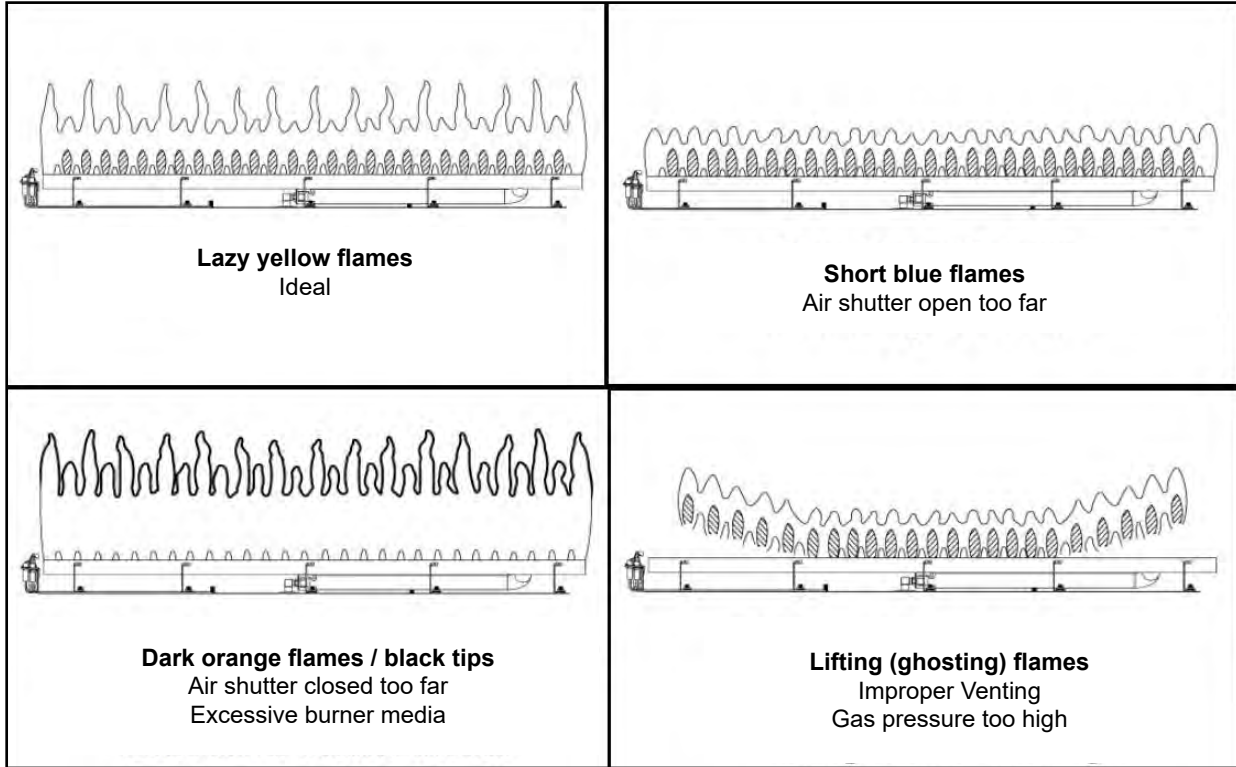
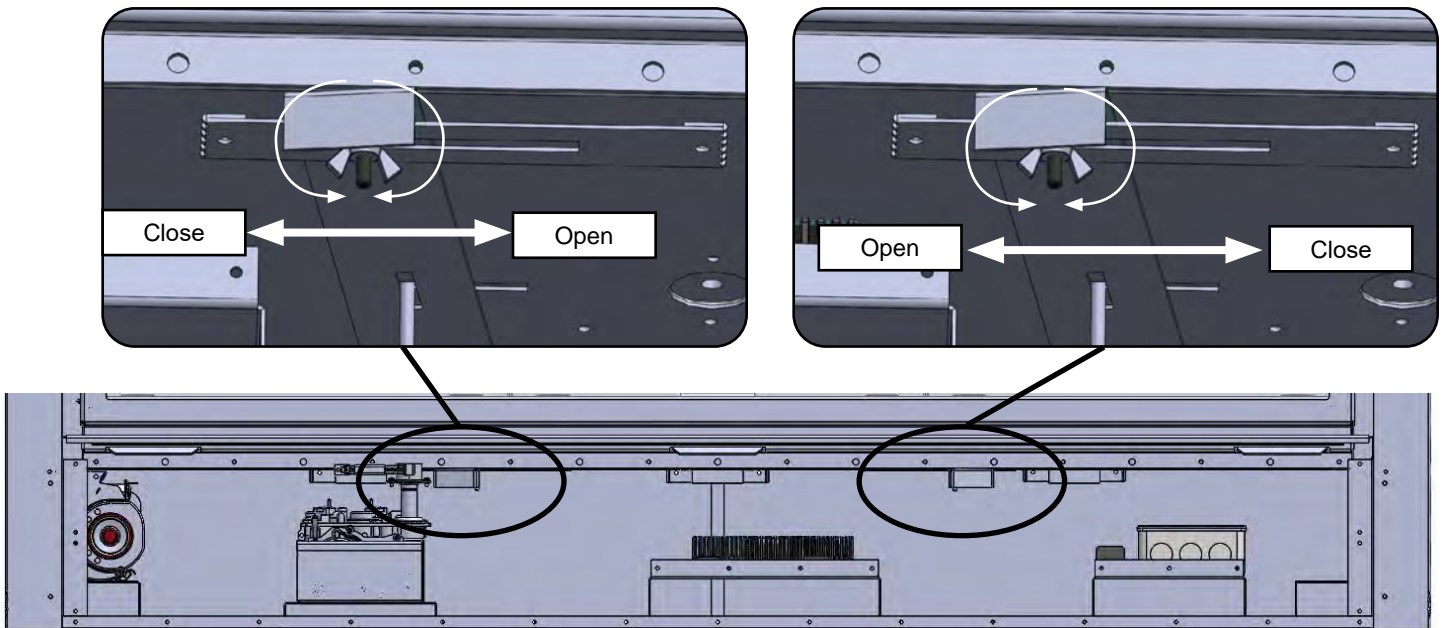

Figure 18.5.01:
Figure 18.5.02:
- Inspect and ensure the lighting of the main burner occurs within 4 seconds of the main gas valve opening. Flames should match those shown in **Figure 18.5.01**.
The 62-DVTE46CN-1 includes an air shutter located under the door of the fireplace which may be used to adjust the primary air to achieve the ideal flame as shown in **Figure 18.5.01**. To adjust, loosen the wing nut on the air shutter and adjust as shown in **Figure 18.5.02**. To open the air shutter and increase air flow to the burner, slide the air shutter to the left. To close the air shutter and decrease air flow to the burner, slide the air shutter to the right.